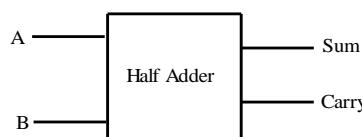

Figure 5.2.13: Half Adder Logic Symbol.
**i) Half Adder:** An electronic combinational circuit which performs the arithmetic addition of two binary bits is called Half Adder. In the half adder circuit, there are two inputs, addend and augend and two outputs are Sum and Carry. The logic symbol of half adder is shown in Figure 5.2.13 and the truth table of half adder is given in table 5.2.8.